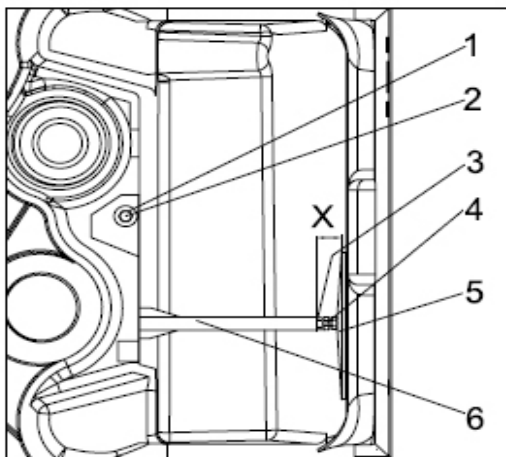

Figure 22 - Tank Stabilizer
Refer to Figure 22 for items in the procedure:
2. Mount complete stabilizer (6) in the tank and fasten hand tight by items 1&2 of (Figure 22)
3. Fasten plate (5) hand-tight at tank wall and determine X
4. Adjust tension of plate (5) to $X + (4\text{mm}) 1/8''$
5. Tighten Hex Bolt (2)
6. Fasten (counter-lock) plate (5) by means of jam nut (4)